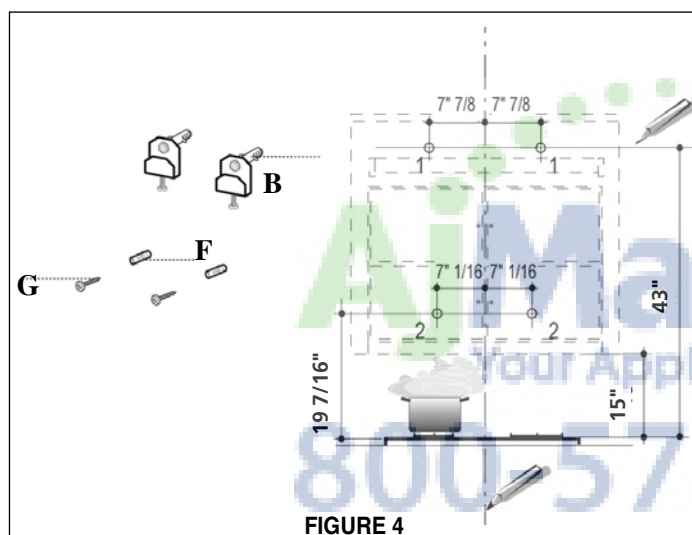

FIGURE 4
3. Draw a horizontal line at 43" above the cooktop (as indicated in **FIGURE 4**). Mark two points (1) (in **FIGURE 4**) on the horizontal line, $7\frac{7}{8}$ " away from the center line on each side. Make sure both marks are level.
4. Mark two points (2) (in **FIGURE 4**) which are $19\frac{7}{16}$ " above the cooktop, and are $7\frac{1}{16}$ " on either side of the center line. Make sure both marks are level.
5. In holes (1) (in **FIGURE 4**) attach the two mounting brackets (B) to the wall with 2 mounting screws.
6. In holes (2) (in **FIGURE 4**) put one safety screw (G) in each hole, do not tighten the screws all the way.
5. Tighten the safety screws (Hole 2, in **FIGURE 4**)